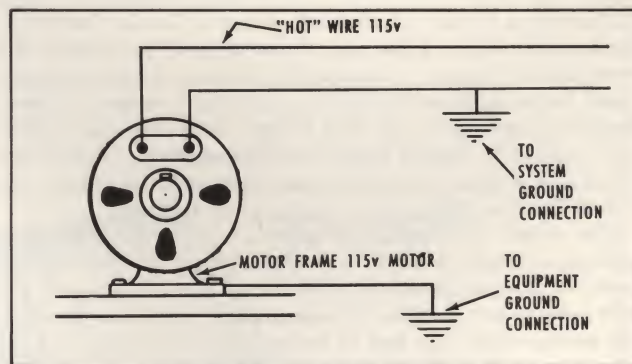

FIG. 98—GROUNDING THE MOTOR FRAME
**EQUIPMENT GROUNDING.** To avoid the hazard of shock it is necessary to attach a ground wire to the frames of washing machines, dryers, ironers, portable tools, etc., powered by electric motors. Fig. 98 shows how a mounting bolt on a motor anchors the grounding wire which is fastened to ground lugs on the equipment frame. Frames of electric ranges, wall-mounted ovens and counter-mounted cooking units are grounded in a similar fashion.